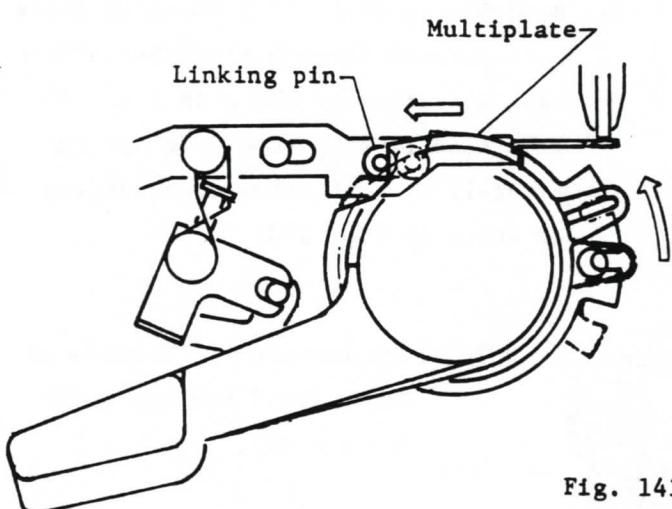

Fig. 143
2) When Multiexposure lever is moved forward, Multi plate moves Linking pin of Operation lever, then Multiple exposure can be possible as shown in Fig. 143.